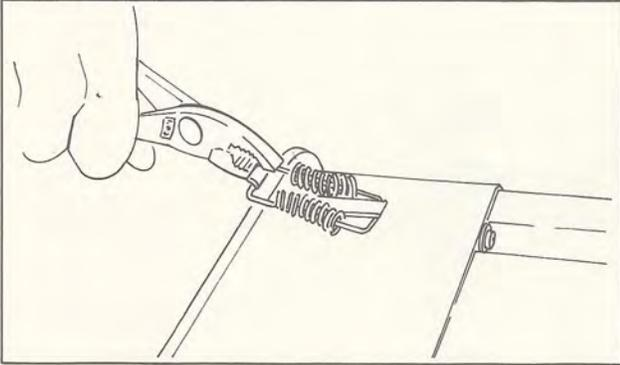

Fig. 2-26
- (2) Remove the two springs, and remove silencers 1 and 2 as an assembly from the silencer plate. (Fig. 2-26)